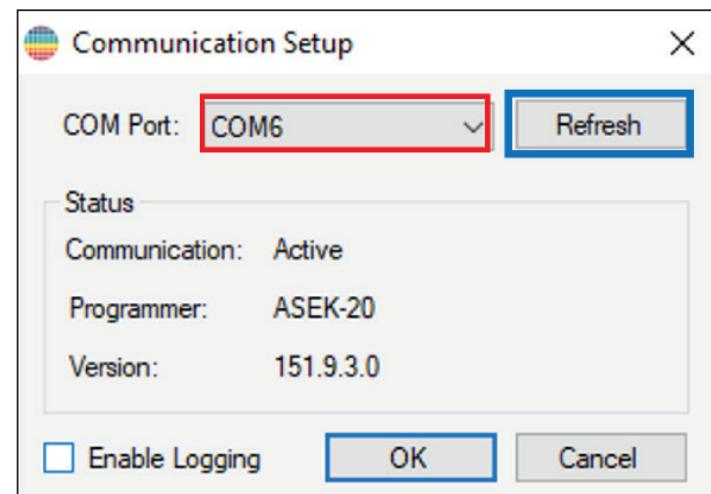

Figure 11: Communication Setup Dialog Box
To connect the Asek-30, select the setup option, then select the communication setup option. The dialog box in Figure 11 appears. In the COM port drop-down menu options, click the correct COM port number. If the COM port is unknown, perform the following:
2. Click the refresh button (outlined in blue in Figure 11, top right.) in the communication setup dialog window